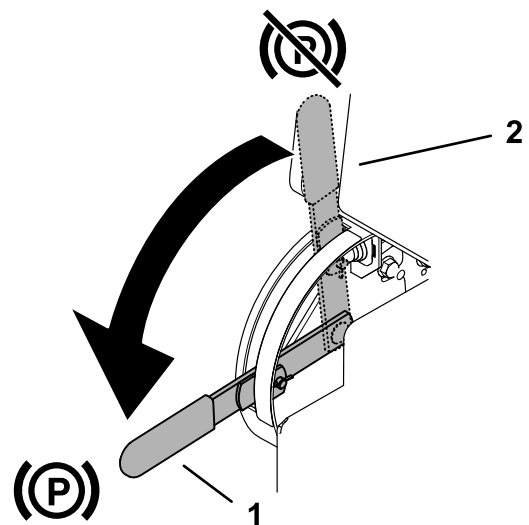

Figure 7
- To engage the parking brake, rotate the lever down (Figure 7).
- To release the parking brake, rotate the lever up (Figure 7).